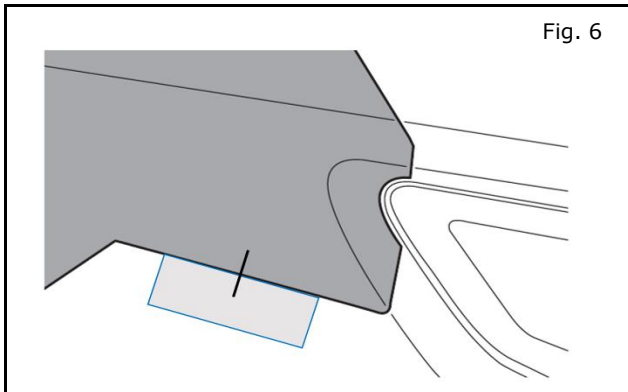
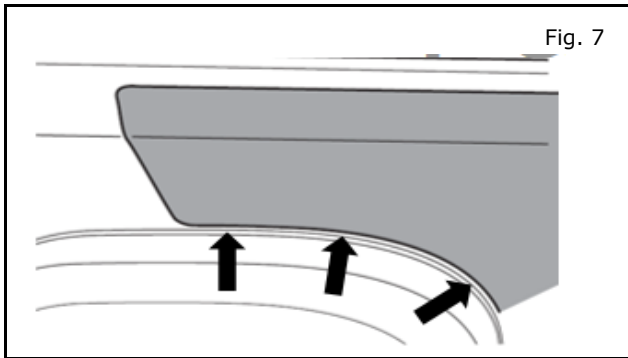

Fig. 6
Fig. 7
- 6) Reposition the wet graphic pre-mask to the masking tape (Fig 6), and then tangent of wheel opening feature. Make sure bottom edge of pre-mask aligns tangent along entire length of part (Fig 7).
- 9) Carefully remove pre-mask from graphic (Fig 6).